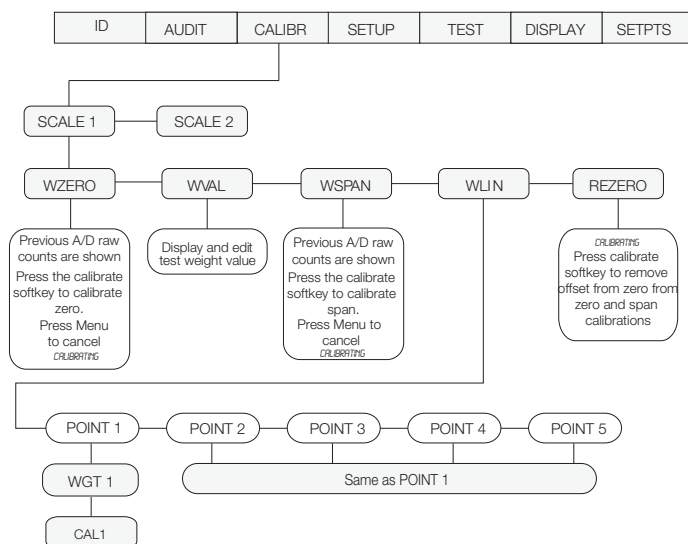

Figure 4-1. Calibration (CALIBR) Menu
Calibration can be performed in two places within the menu: the **CALIBR** menu shown in Figure 4-1 and the **SCALE** submenu shown in Figure 3-6 on Page 22. The **CALIBR** menu shown in Figure 4-1 is a “quick access” calibration; for more in-depth scale setup and calibration, use the menus found under **SETUP»CONFIG»SCALE** (see Figure 3-6 on Page 22).
1. Press the **MENU SETUP** button, then press **▷** until the display reads **CALIBR** (see Figure 4-1).